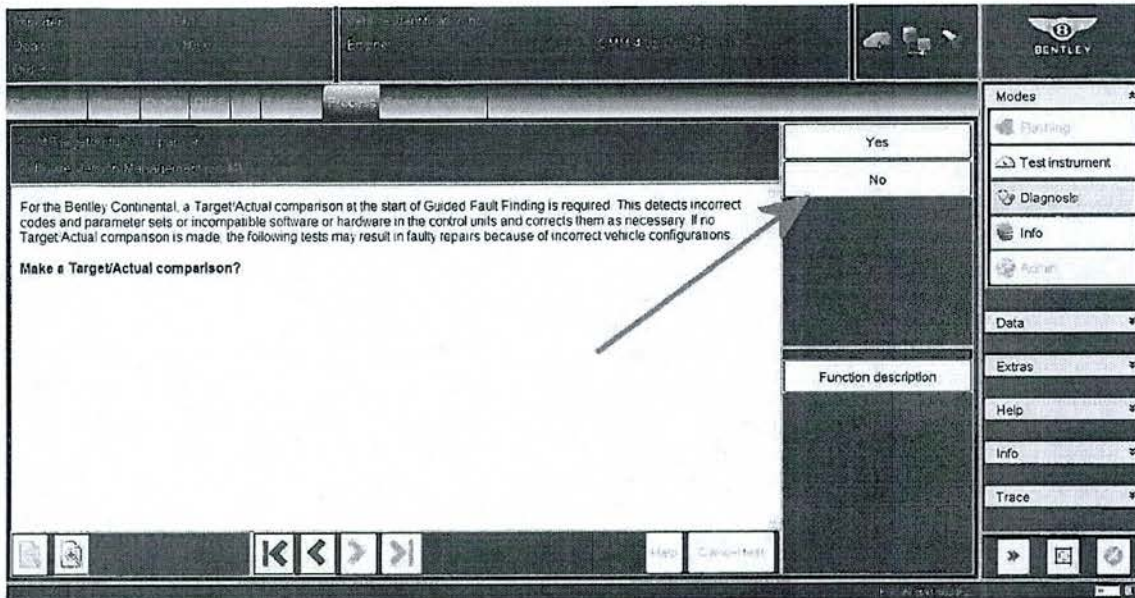

Figure 3
2. When requested to Make a SVM Target/ Actual comparison please select No (Figure 3)